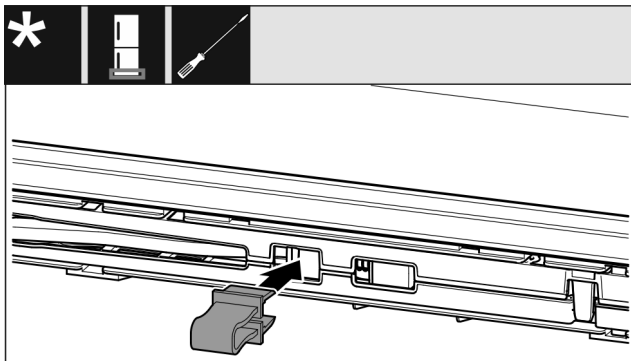

Fig. 16
- Latch safeguard into opening. (see Fig. 16)